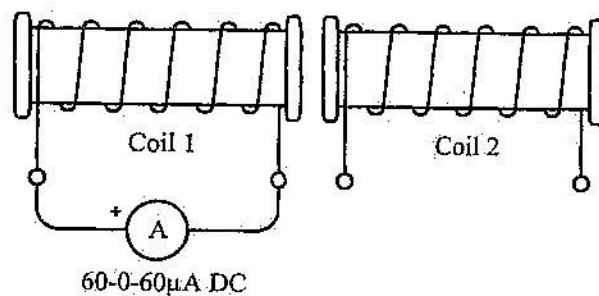

Figure 4
19. Reconnect the circuit as shown in figure 4, with the soft iron core removed.
23. Insert the soft iron core into the coil. Ensure that circuit is connected as shown in figure 4.